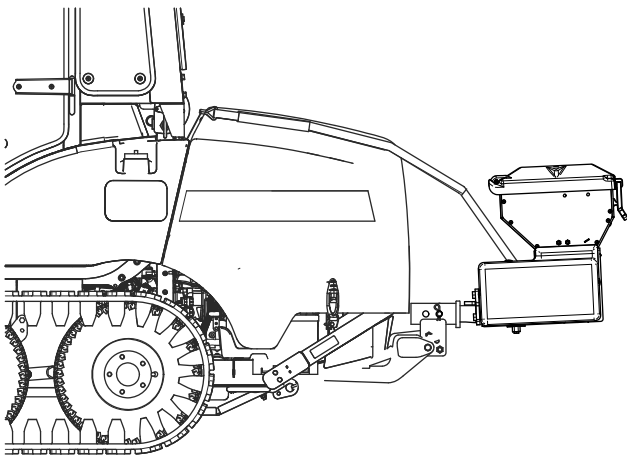

Figure 31
1. Slide the spreader hitch into the receiver hitch on the vehicle and line up the second hole on the spreader hitch with the hole in the hitch of your vehicle (Figure 31).